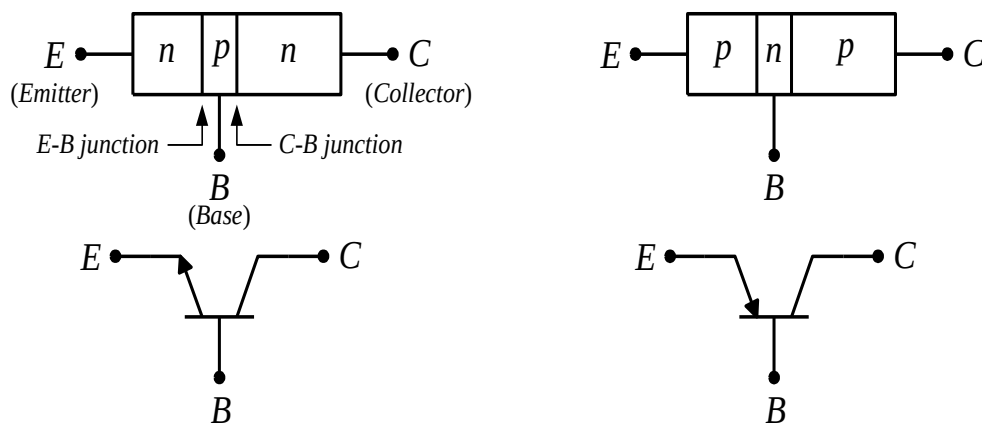

Fig. 3-2. The two types of BJT transistors
The transistor is a three-layer semiconductor device consisting of either two n - and one p -type layers of material or two p - and one n -type layers of material. The former is called an ***NPN transistor***, while the latter is called a ***PNP transistor***. Both (with symbols) are shown in Fig. 3-2. The middle region of each transistor type is called the ***base (B)*** of the transistor. Of the remaining two regions, one is called ***emitter (E)*** and the other is called the ***collector (C)*** of the transistor. For each transistor type, a junction is created at each of the two boundaries where the material changes from one type to the other. Therefore, there are two junctions: ***emitter-base (E-B) junction*** and ***collector-base (C-B) junction***. The outer layers of the transistor are heavily doped semiconductor materials having widths much greater than those of the sandwiched p - or n -type material. The doping of the sandwiched layer is also considerably less than that of the outer layers (typically 10:1 or less). This lower doping level decreases the conductivity (increases the resistance) of this material by limiting the number of "free" carriers.